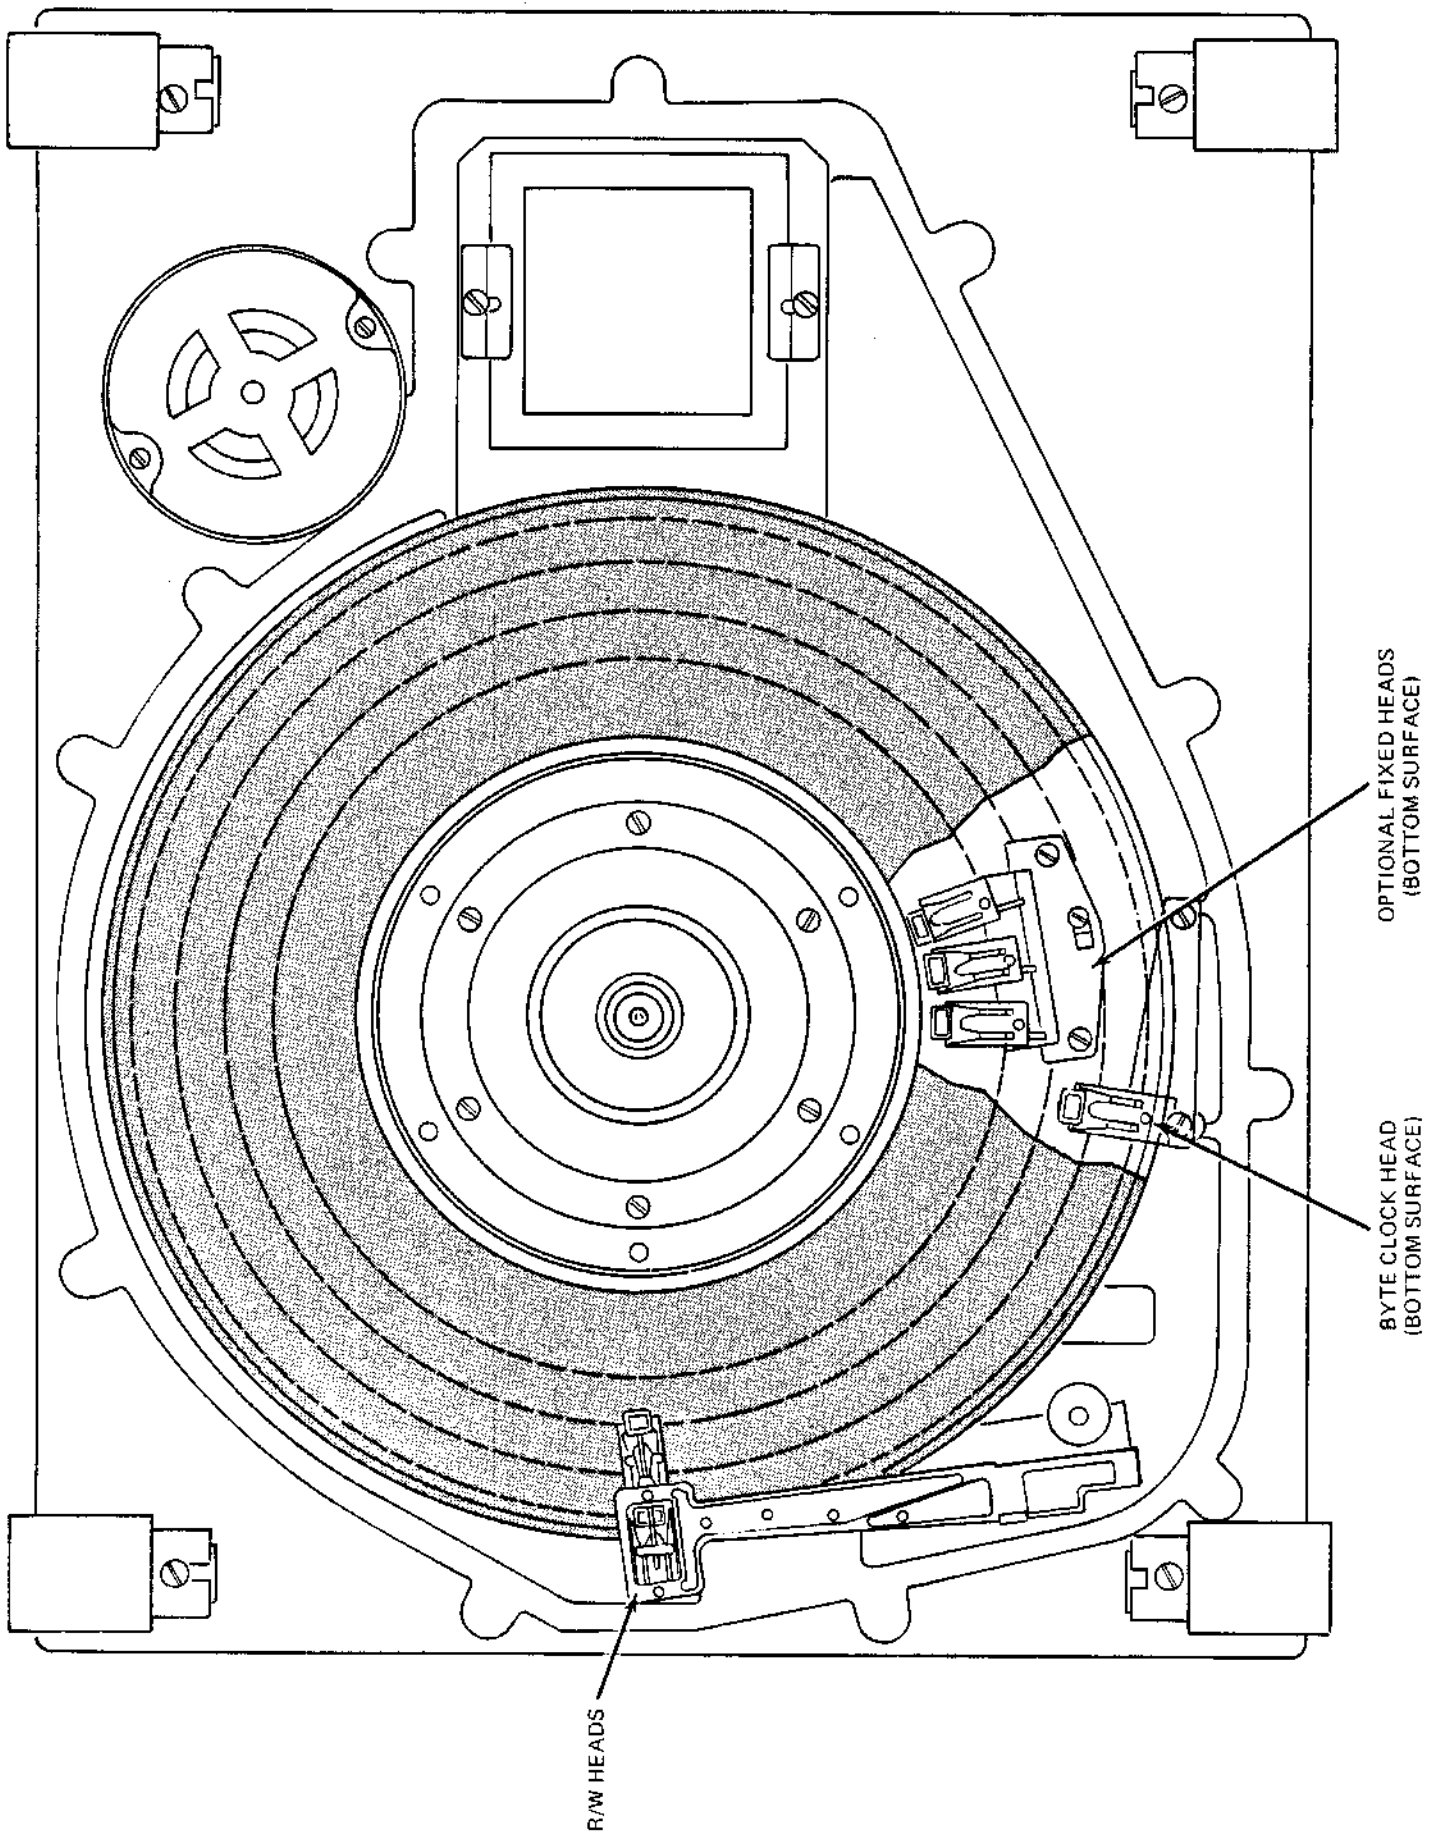

Figure 4. SA4000 Head Locations
2.5 Read/Write Heads and Disk (Figure 4)